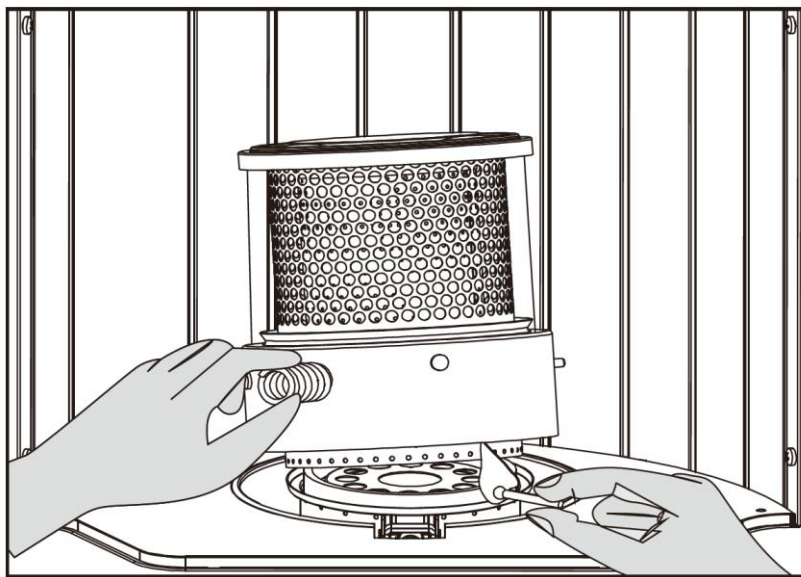

Figure 6.
3. Raise the wick and open the wire net protector. Remove the chimney in a manner as shown in Fig.6- And then light up the wick in 2-3 points with a match.